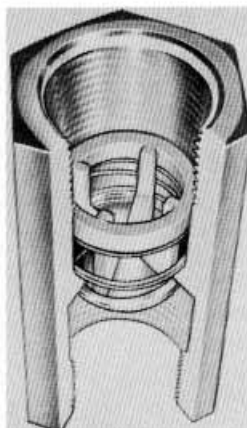
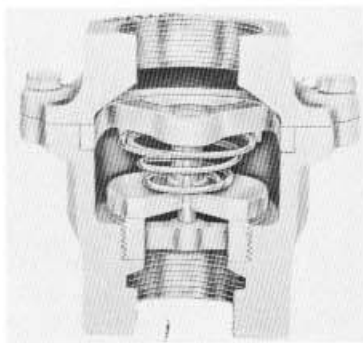
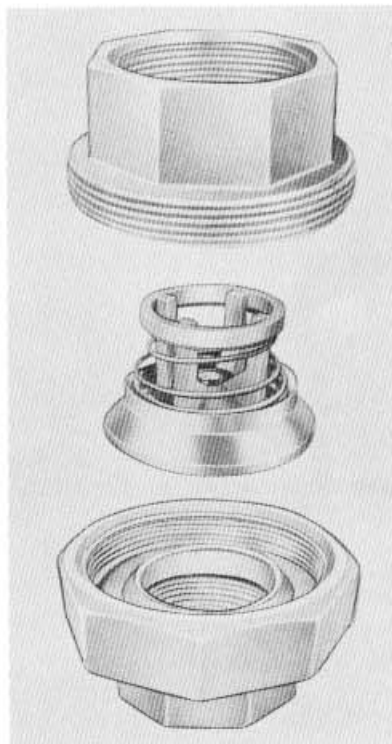

Figure 2
FIGURE 9: Example of a two piece body.
FIGURE 10: Check valve insert.
2. Threaded type - similar to insert type except supplied with its own body. See Figure 2.
Threaded valves are basically provided in three styles. A one piece valve (Figure 2) having a cylindrical body with inlet and outlet tapings. A two piece body (Figure 9) held together at the center having an inlet and outlet tapping. A check valve insert (Figures 10, 11) which fits into unions, bushings or pipe fittings.